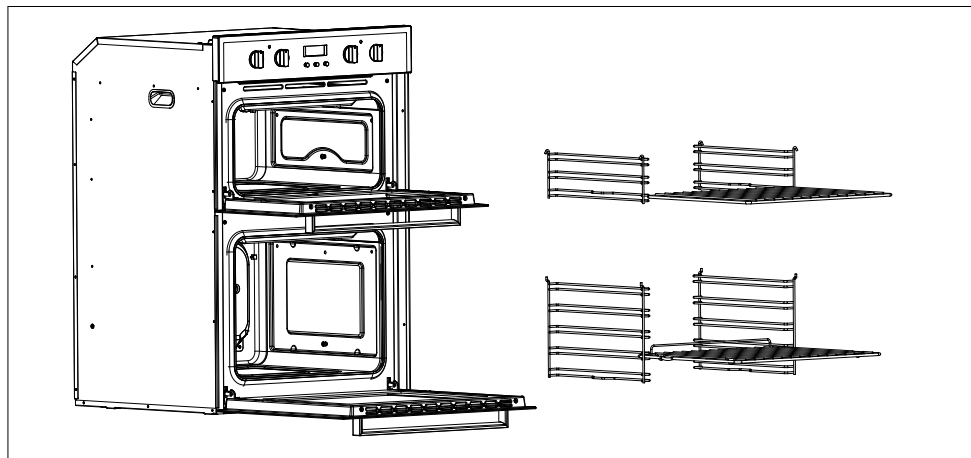

Figure 2.
- › Remove the side racks (see section below and Fig.2)
- › Finally, re-fit the side racks (See below and Fig.2)